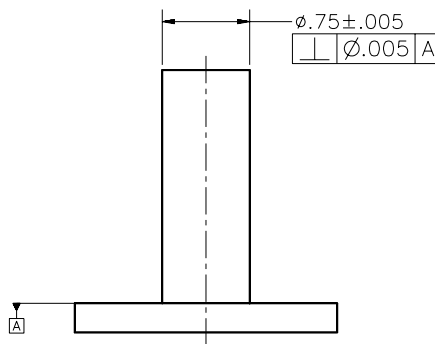

Figure 8-78 Drawing for Example 2
2. Choose the **Annotation** tab and then select the **Tolerance** radio button from the **Annotation Type** area. Choose **OK** to return to the Command line. Specify the first, second, and the third leader point, refer to Figure 8-78. As soon as you specify the third point, the **Geometric Tolerance** dialog box will be displayed. Choose the position symbol from the **Symbol** dialog box.
5. Choose the **OK** button in the **Geometric Tolerance** dialog box. AutoCAD will create two frames and automatically align them, refer to Figure 8-78.
In the following example, you will create a feature control frame to define the perpendicularity specification, see Figure 8-78.